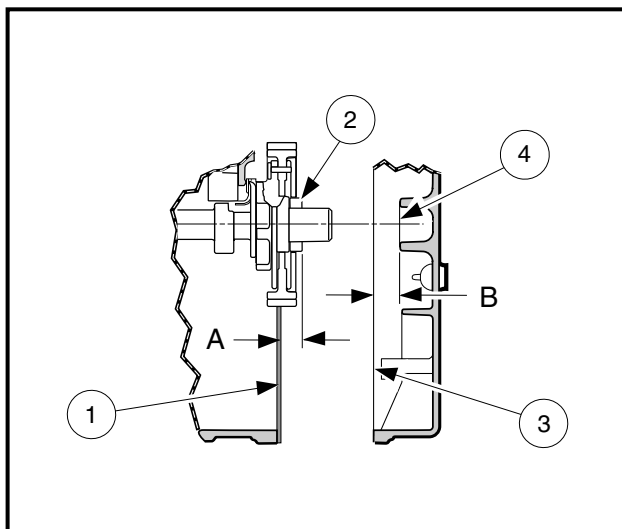
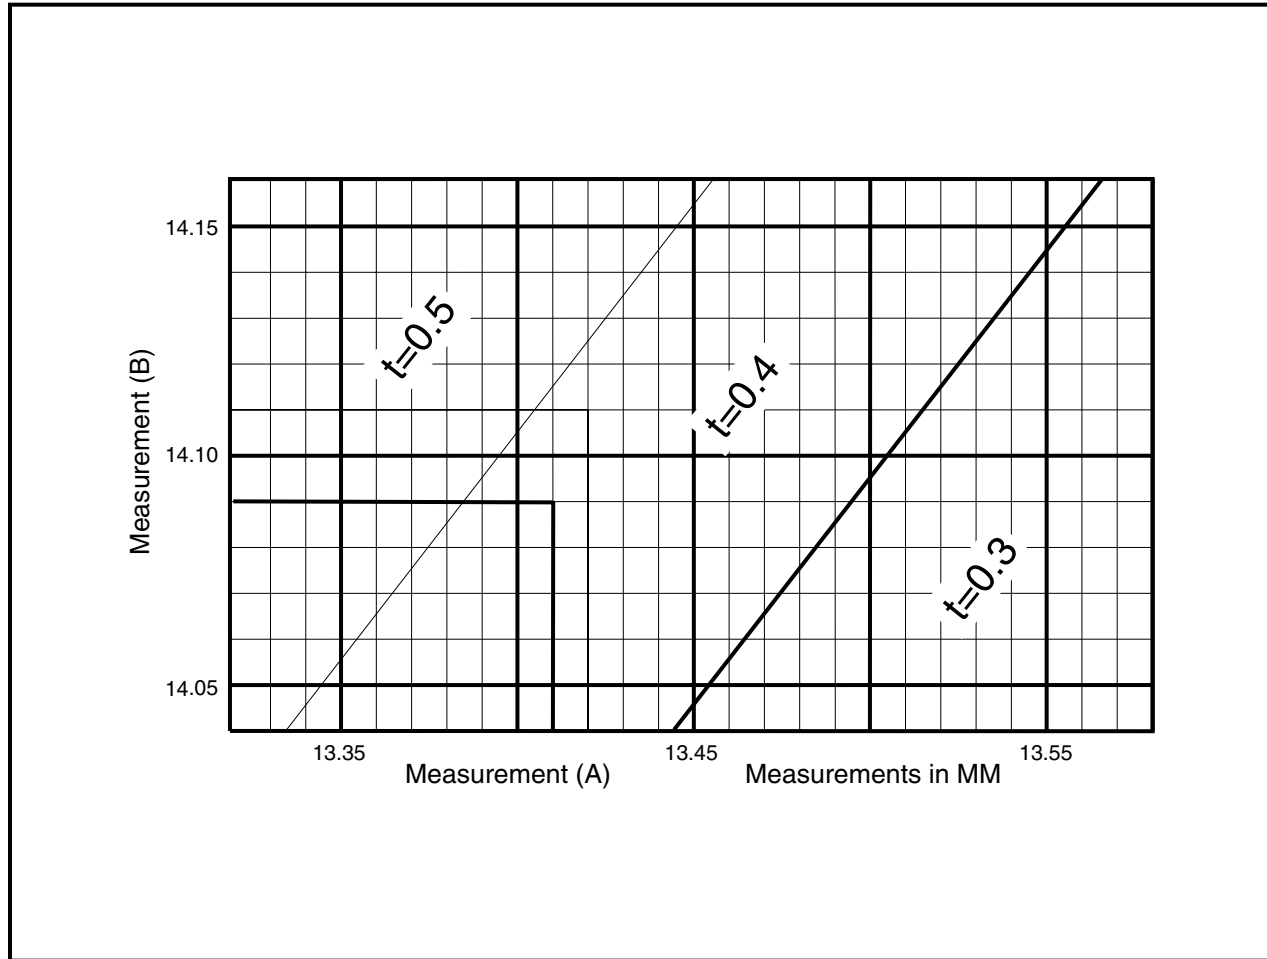

Figure 13-104 Measurements to be Recorded for Camshaft Shim Table
Figure 13-106 Camshaft Shim Table
1. With the gasket (1) installed on the crankcase, measure from the gasket surface to the camgear surface (2). Record this measurement (A) (**Figure 13-104, Page 13-47**).
2. Measure from the crankcase cover (3) mounting face to the camshaft bearing inner end (4). Record this measurement (B).
3. Locate the measurements on the Camshaft Shim Table. Follow the lines to where the recorded measurements intersect (**Figure 13-106, Page 13-48**).